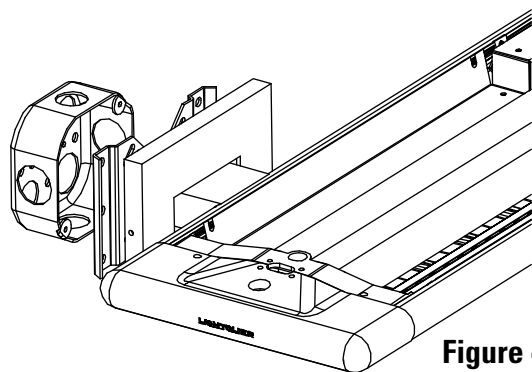

Figure 4
- C. Fasten the fixture securely to the j-box with (2) 8-32x1" machine screws (by others). (Fig. 4)